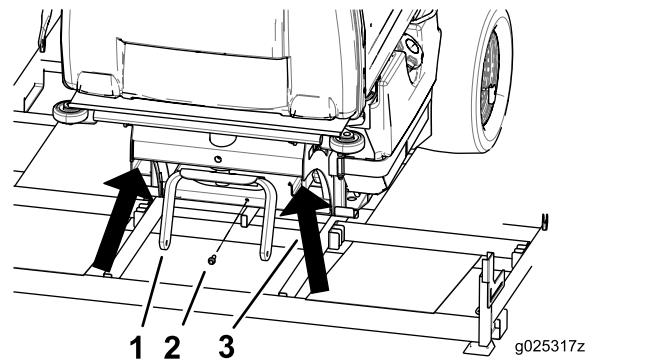

Figure 1
2. Remove the bolt holding the rear-frame support to the frame (Figure 1).
3. Raise the rear of the machine approximately 25.4 to 30.5 cm (10 to 12 inches) and support it with jack stands or equivalent support (Figure 1).